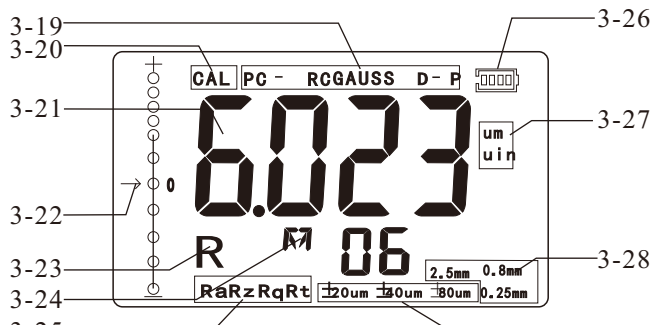

Fig. 3-5
- 7.2.1 Just depressing the key DEL MENU and not releasing it till 'FAC' on the Display. It is about 16 seconds from starting depressing key DEL MENU . This state is also marked by 'CAL', please see the Fig. 3-5.